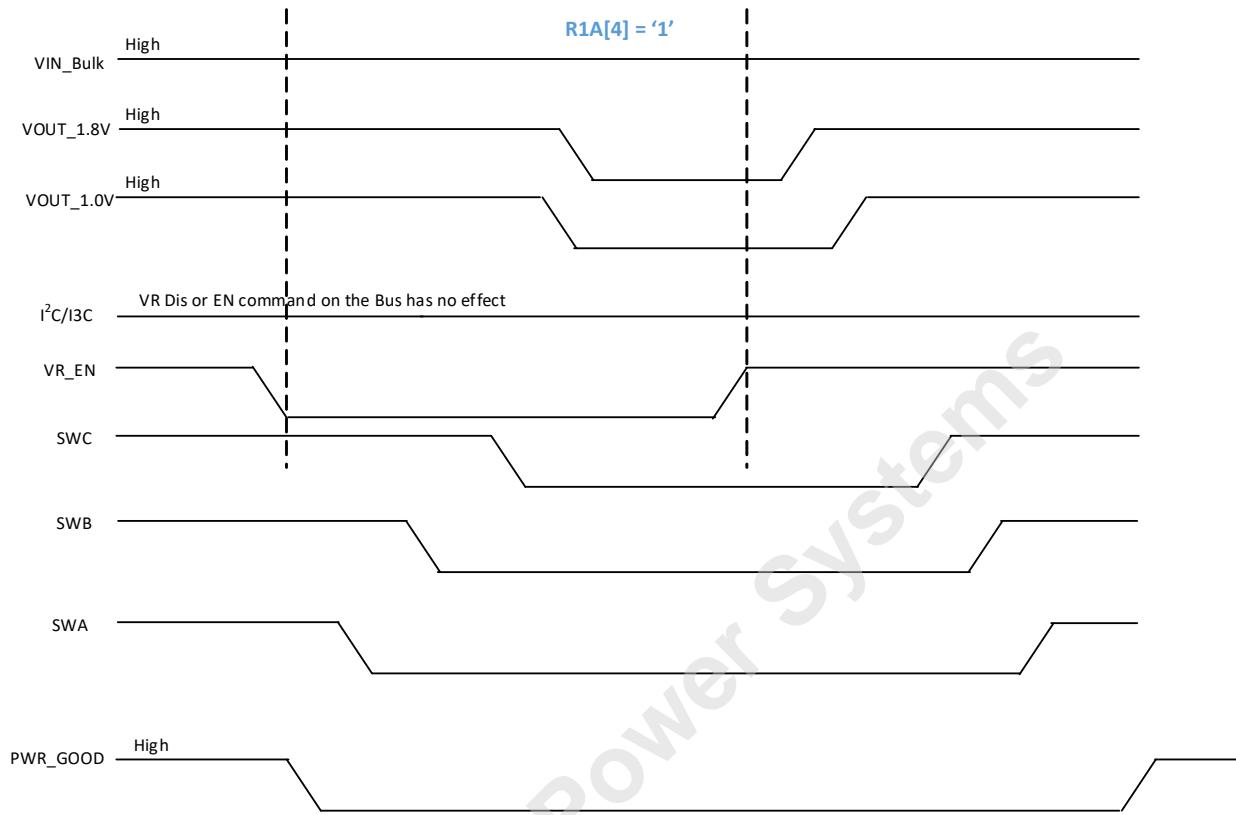

Figure 32 — Power Down with VR\_EN Pin; R1A[4]=1; Secure Mode; PWR\_GOOD Signal
1. The VR Disable command with VR\_EN pin transitions to low. The PMIC asserts PWR\_GOOD signal Low. The PMIC executes power off sequence config0 (Table 167, “Register 0x58”) to power off sequence config2 (Table 169, “Register 0x5A”) to preserve the appropriate voltage relationship as configured in the registers and enters in P1 state. The host can re-enable the PMIC’s output regulators by VR\_EN pin transition to High. The PMIC exits from P1 state and executes power on sequence config 0 to config 2 registers and floats PWR\_GOOD signal after tPMIC\_PWR\_GOOD\_OUT timing parameter is satisfied. See Figure 32. The PMIC does not require power cycle.